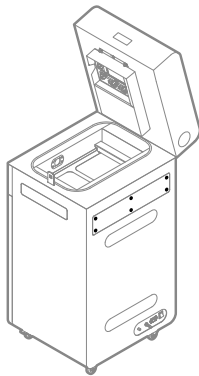

Fig. 13.89 Remove six screws from the access panel.
- Using a 2.5 [mm] allen key, remove the six screws securing the access panel on the back side of the printer (fig. 13.89).